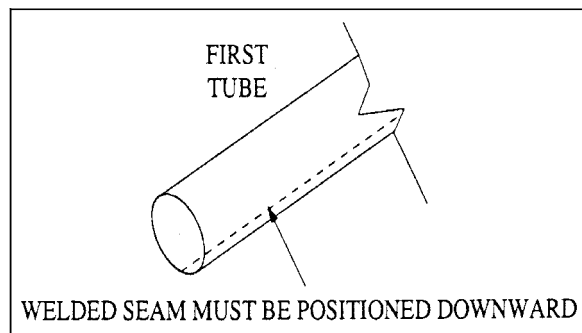

Figure 3-3
**IMPORTANT:** Mount all tubes with welded seam facing downward (see figure 3-3). Be sure to have swaged ends pointed towards the exhaust end of the heater.